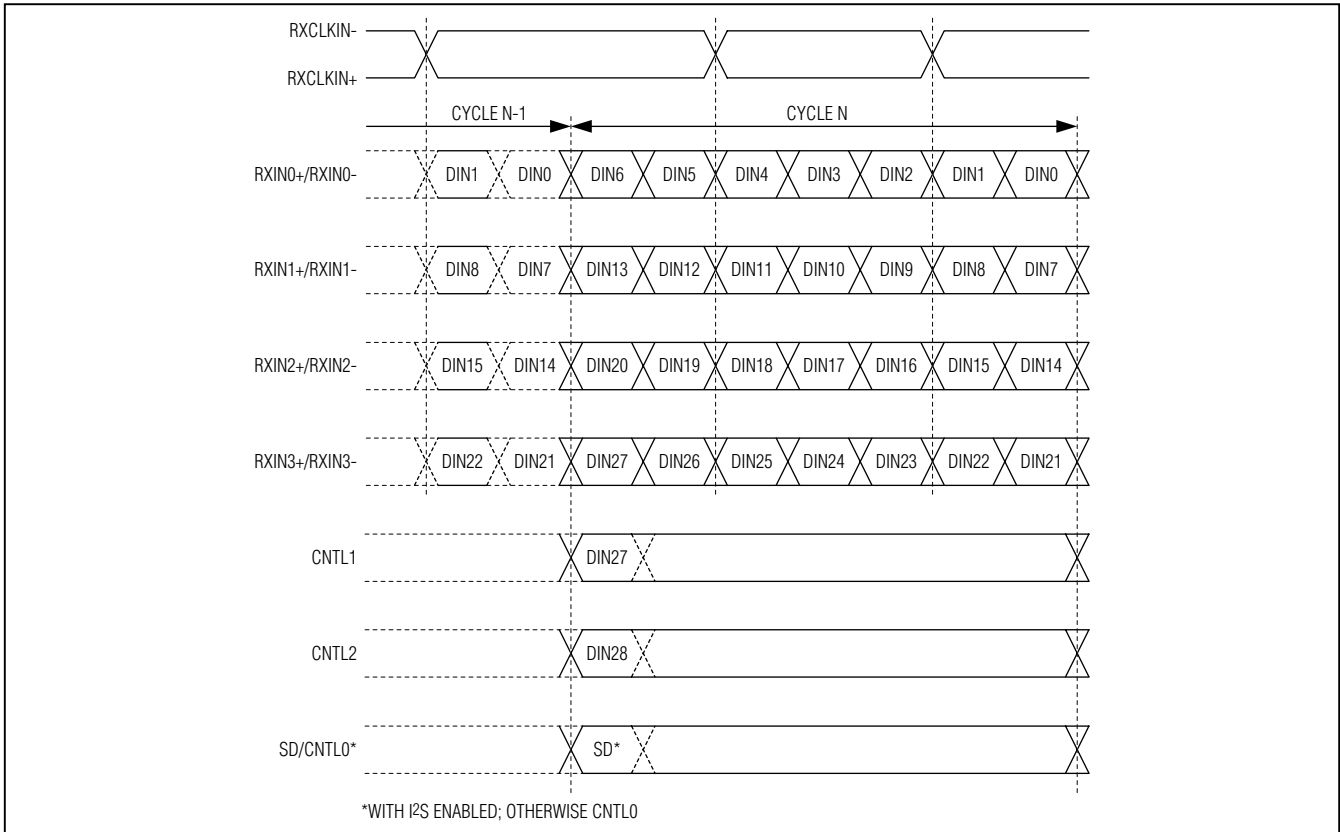

Figure 13. LVDS Input Timing
**Table 2. LVDS, HDCEP Mapping and Bus Width Selection (see Figures 13 and 14)**
Table 3. LVDS, HDCEP Mapping and Bus Width Selection (see Figures 13 and 14)